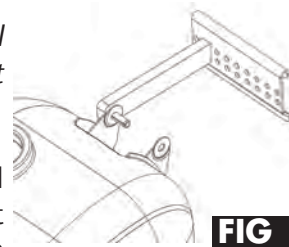
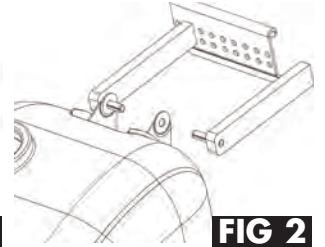
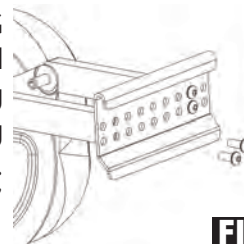

FIG 1
FIG 2
FIG 3
2. Remove fuel tank from motorcycle per service manual and mount JIMS No. 5818-2 Fuel Tank Mount to front mounting holes of your fuel tank so hanger can receive the mounting lip on top of No. 5818-1 Wall Bracket. (FIG 1) The width of No. 5818-2 Fuel Tank Mount may need adjusting to fit your fuel tank. Adjust width by removing two button head screws in each standoff and moving each standoff to their proper position for your fuel tank. (FIG 2) Once width is set, tighten screws with a 5/32" Allen wrench. (FIG 3)